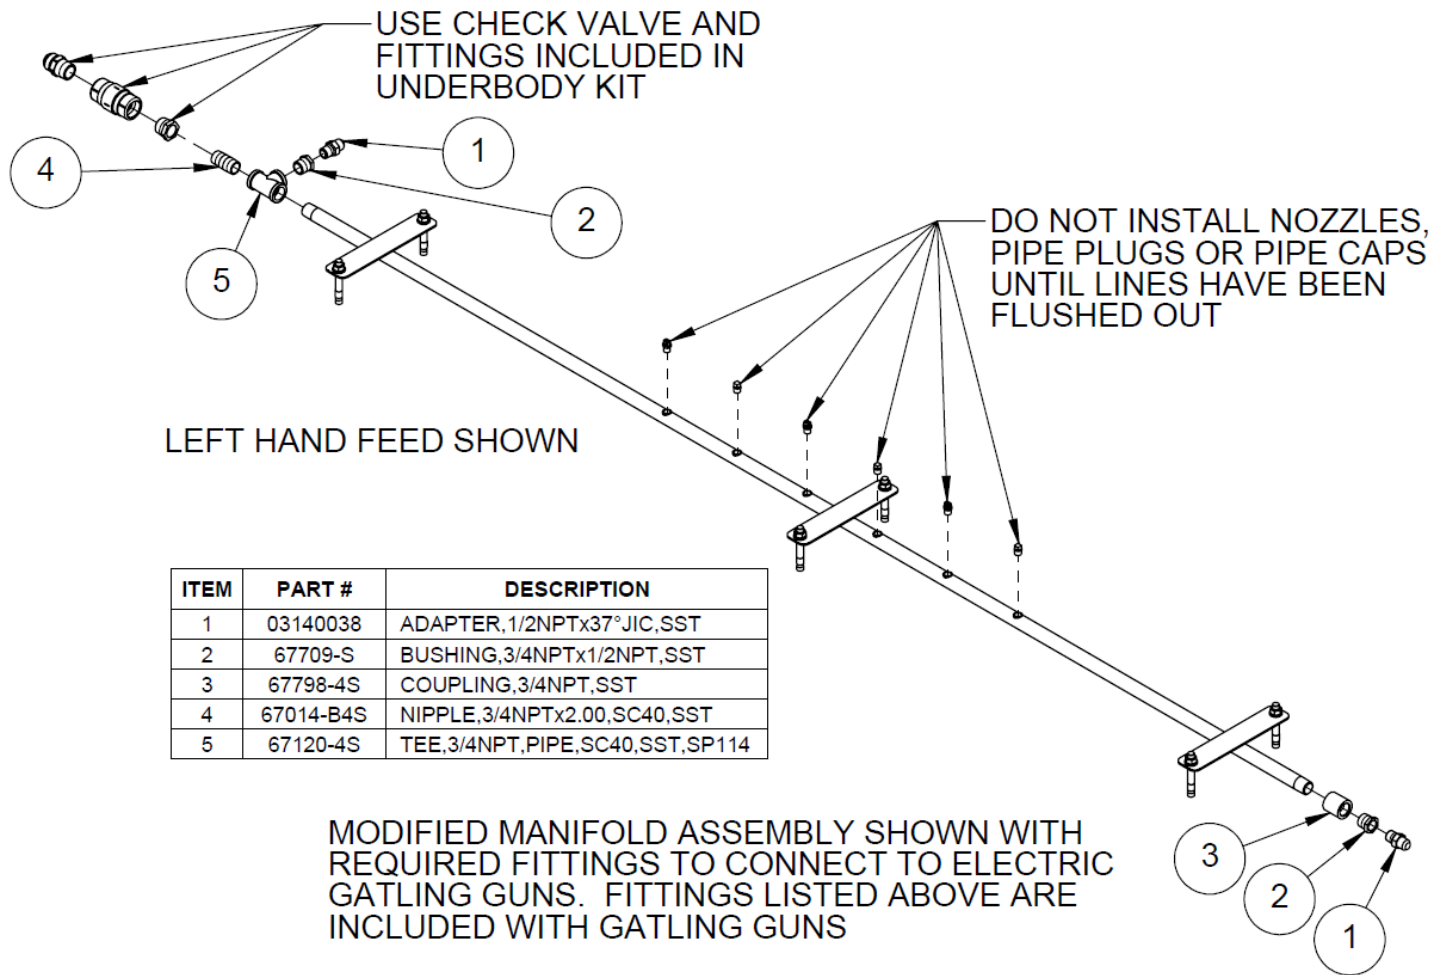

Figure 114 - High Pressure Underbody Manifold Modified for Gatling Guns
- Install the supplied fittings to the feed end of the manifold as shown in Figure 114.
- Install the supplied adapter, bushing, and coupling to the end opposite the feed end of the manifold. See Figure 114.